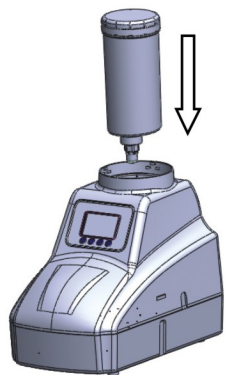

Figure 13
②As the Figure 13 shows, please insert the reagent bottle into the device (There is a check valve on the sealing surface of bottle, to avoid the reagent flowing out before inserting).